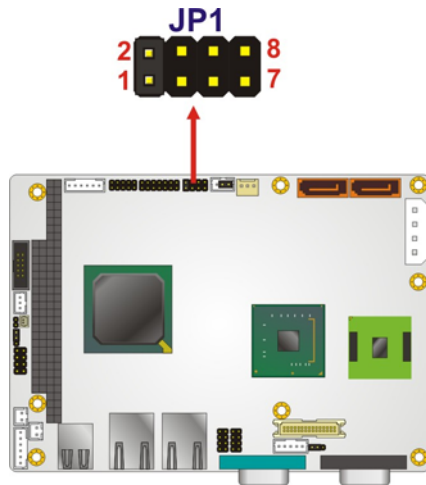

Figure 4-5: COM 2 Function Select Jumper Location
- Jumper Location:** See Figure 4-5